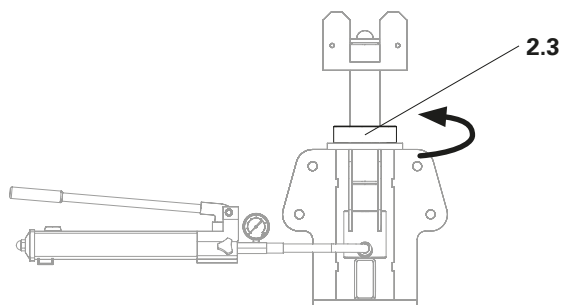

Fig. C2.03c
5. Tighten the head spindle nut (2.3). (Fig. C2.03c)